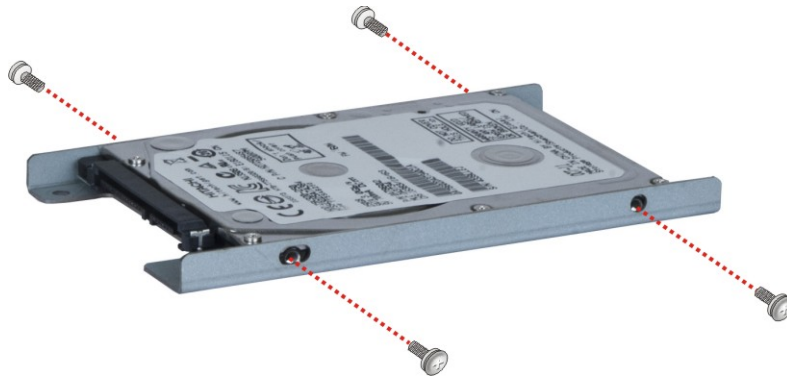

Figure 3-9: HDD Retention Screws
- Step 3:** Attach the HDD brackets to the HDD. To do this, align the four retention screw holes in the both sides of the HDD bracket with the retention screw holes on the sides of the HDD. Insert four retention screws into the HDD bracket (**Figure 3-9**).